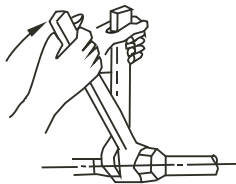

Fig.7-7
- Be sure to use both a spanner and torque wrench together when connecting or disconnecting pipes to /from the unit. (Refer to Fig.7-7)